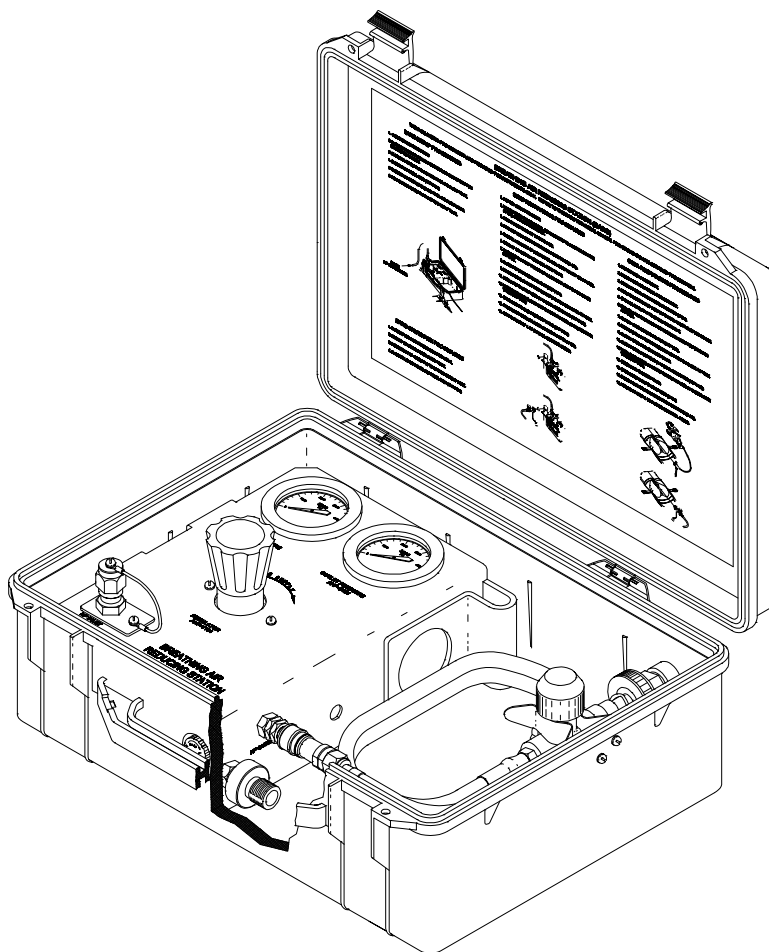
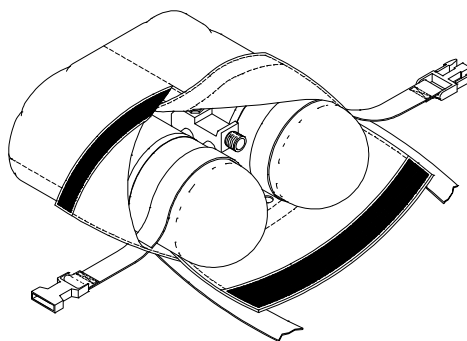
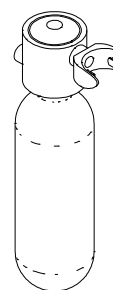

Figure 1-1. Breathing Air Reducing Station (BARS)
Figure 1-2. SAR/SCBA Back-Up Air Cylinders
Figure 1-3. SEED Bottle
The BARS (Figure 1-1) is a portable air reducing station that is completely self-contained in a hard-shell carrying case. The BARS is used to recharge the Immediately Dangerous to Life and Health (IDLH) Supplied Air Respirator with Self-Contained Breathing Apparatus (SAR/SCBA) back-up air cylinders (Figure 1-2) and the Supplemental Emergency Egress Device (SEED) bottles (Figure 1-3). The BARS consists of a charging hose assembly, a charging adapter and a mounting bracket used in recharging SEED bottles, and a panel assembly containing a regulator, relief valve, inlet and outlet pressure gauges, and high-pressure (HP) inlet and outlet ports.